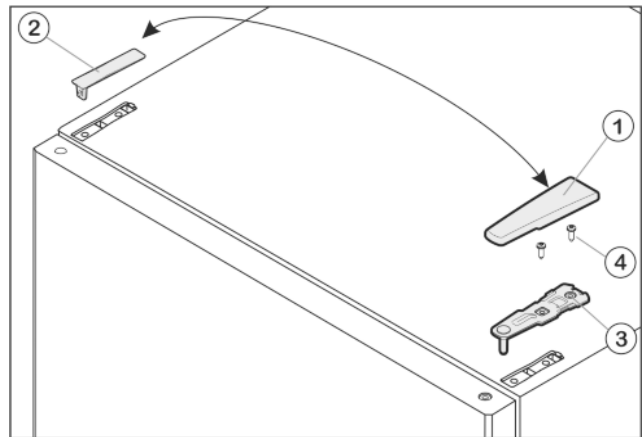

Fig. 7
- ▶ Pull off the cover Fig. 7 (1) forwards and upwards.
- ▶ Lift off the cover Fig. 7 (2).
- ▶ Unscrew the upper turn hinge Fig. 7 (3)(2x Torx® 25) Fig. 7 (4) and lift it off.
- ▶ Insert the upper turn hinge *Fig. 7 (3)* in the door on the new hinge side.
- ▶ Screw the upper turn hinge **firmly** into place (**with 4 Nm**) (2x Torx® 25) *Fig. 7 (4)*. Possibly make preliminary holes with a bradawl or use a cordless screwdriver.
- ▶ Apply the cover *Fig. 7 (1)* and cover *Fig. 7 (2)* to the opposite side from the outside and snap them into place.